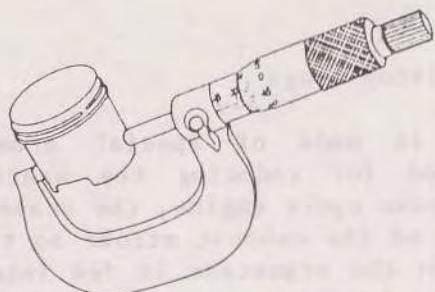

Fig. 13
- (1) Clearance between piston and cylinder (Fig. 13). Measure the maximum diameter of the piston with a micrometer and calculate the difference (called piston clearance) to the maximum cylinder bore. Replace the piston assembly if this clearance exceeds the allowable limit.